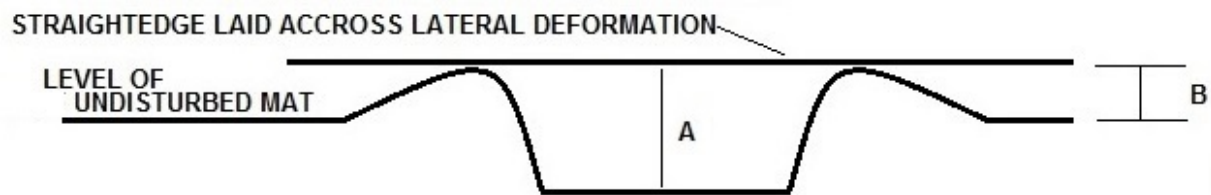

FIGURE 1
3.4.2 Measure the height of lateral deformation, if any, in mm. The height of lateral deformation, measured from the level of the undisturbed mat, is represented as "B" in Figure 1.